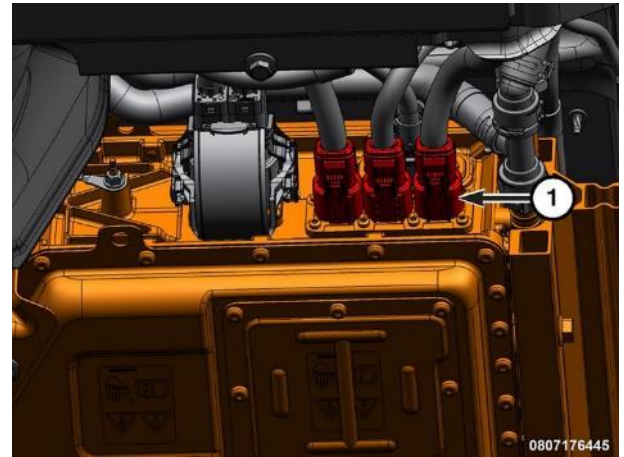

Figure 42 – HV Battery - Primary
24. Disconnect the low voltage wire harness connectors and cover (Figure 42).
66. Connect the low voltage wire harness connectors to the primary battery (Figure 42).